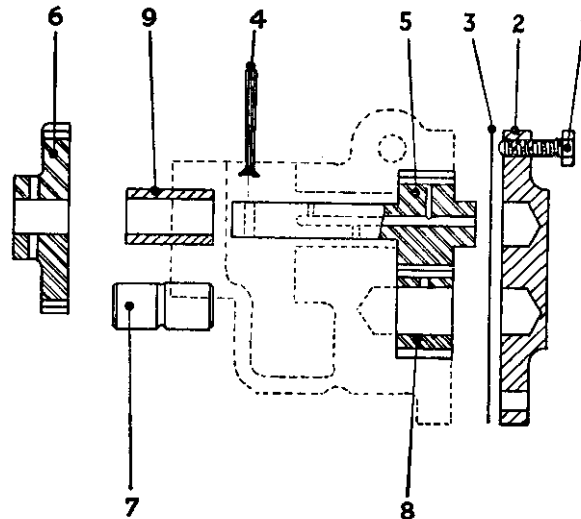

Fig. 13
- iv. The end cover may now be replaced, using sleeve, tool No. 8943 IW. see S.V. 8, Figs. 13 and 14, so as not to damage the oil seal, when pressing on to the larger diameter of the crankshaft.
See Fig. 13.